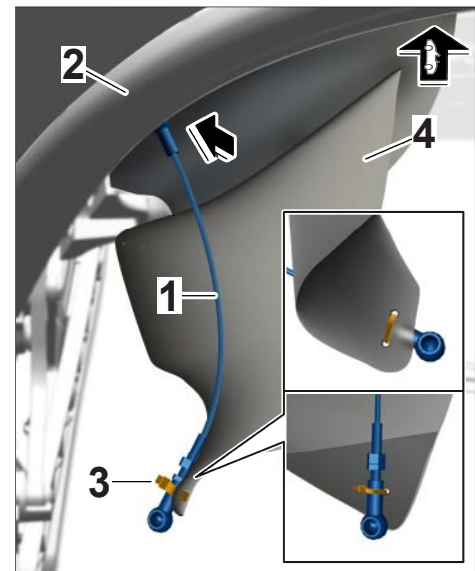

Figure 3
- 2.4 Fit tension rope ⇒ *Figure 3 -1-* with the ball socket at the top of the tension bow ⇒ *Figure 3 -2-* (⇒ *Figure 3 -Arrow-*).
- 2.5 Secure the convertible top rooflining joint ⇒ *Figure 3 -4-* on the lower ball joint of the tension rope ⇒ *Figure 3 -1-* using a tie-wrap ⇒ *Figure 3 -3-*.
To do this, guide the tie-wrap ⇒ *Figure 3 -3-* in through both holes on the convertible top rooflining joint ⇒ *Figure 3 -4-* and close it as shown.